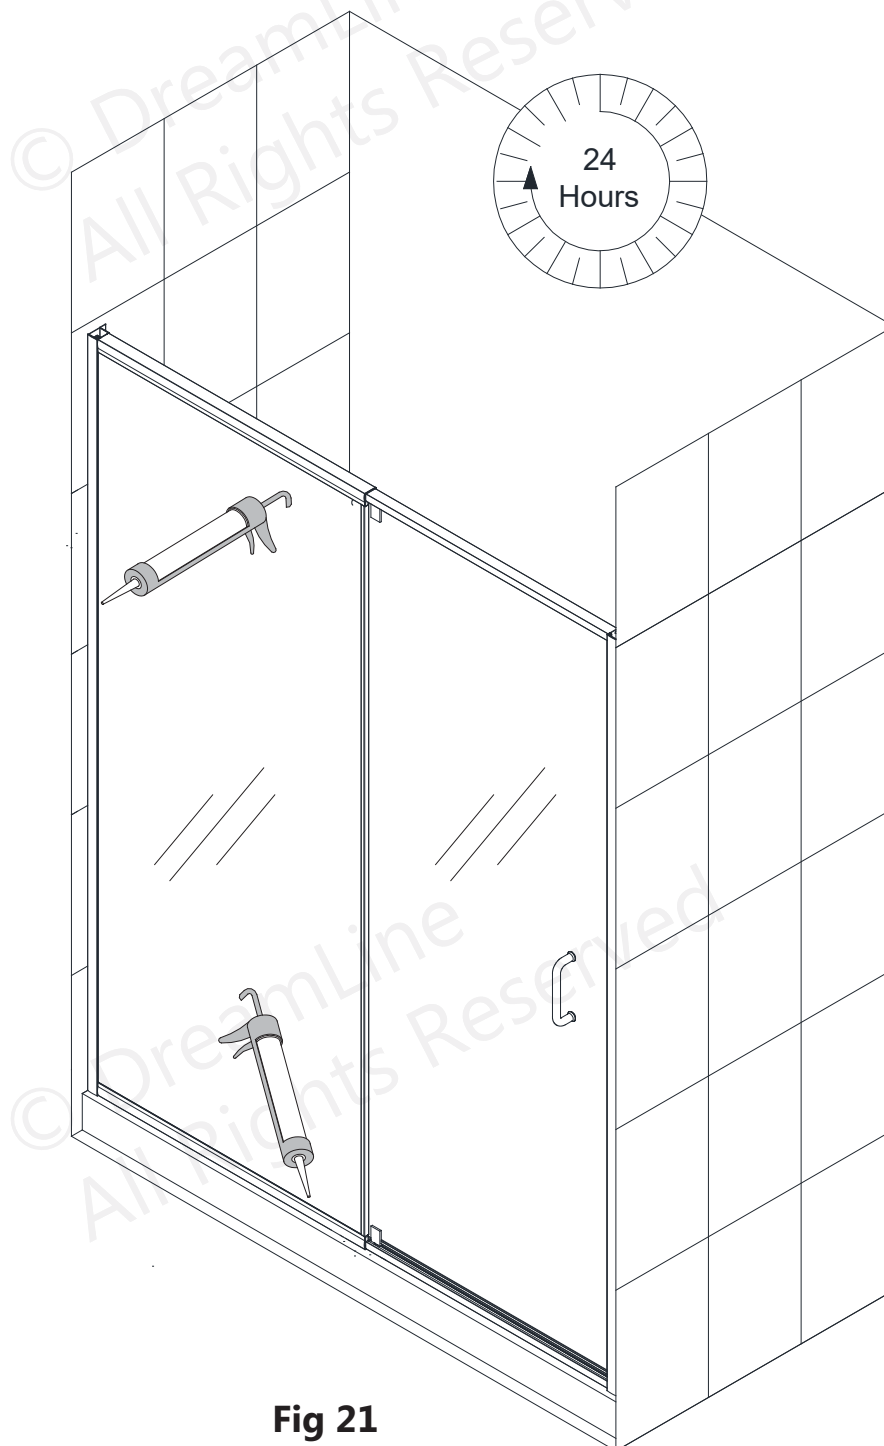

**Fig 21**
**21.** Apply a good quality mildew-resistant silicone around the interior perimeter along both walls and the threshold. **(Fig 21)**